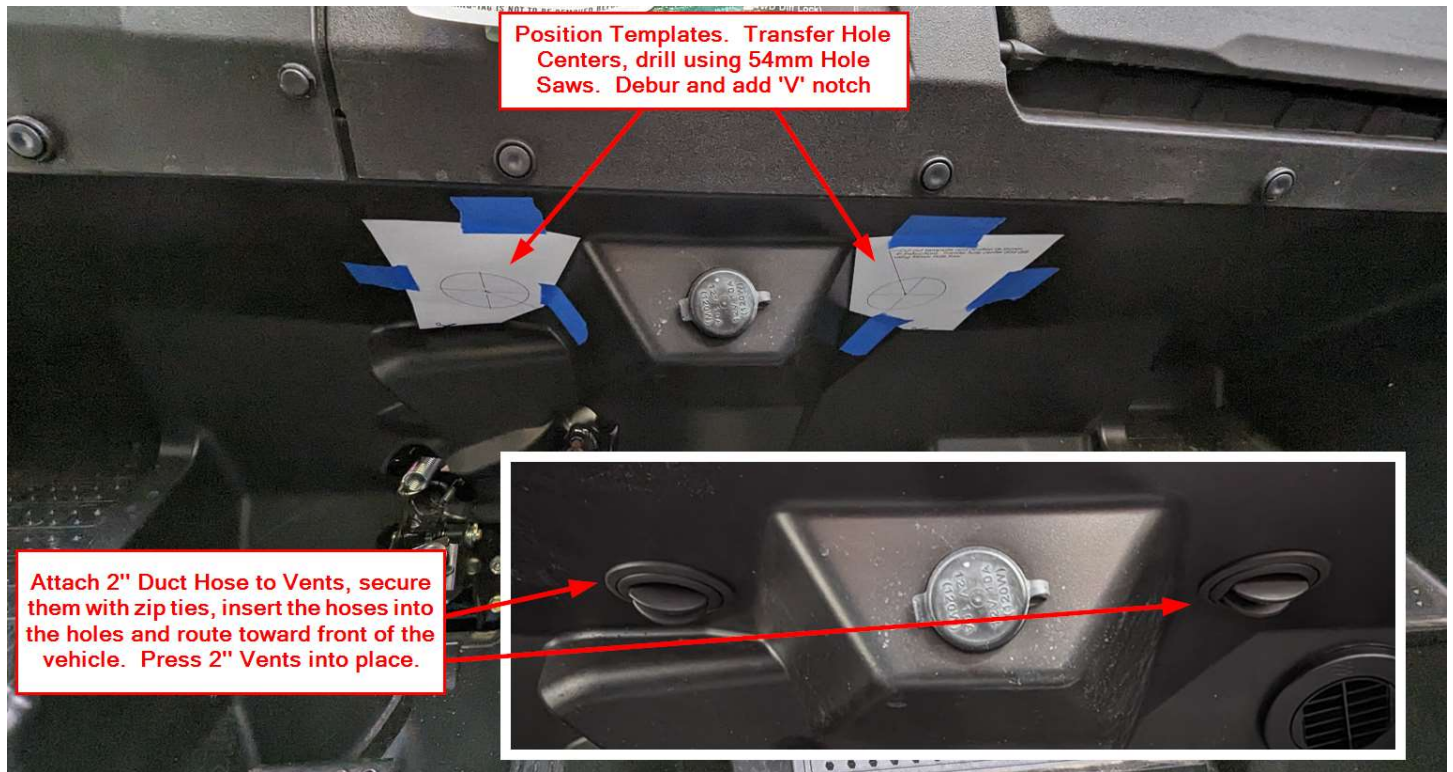
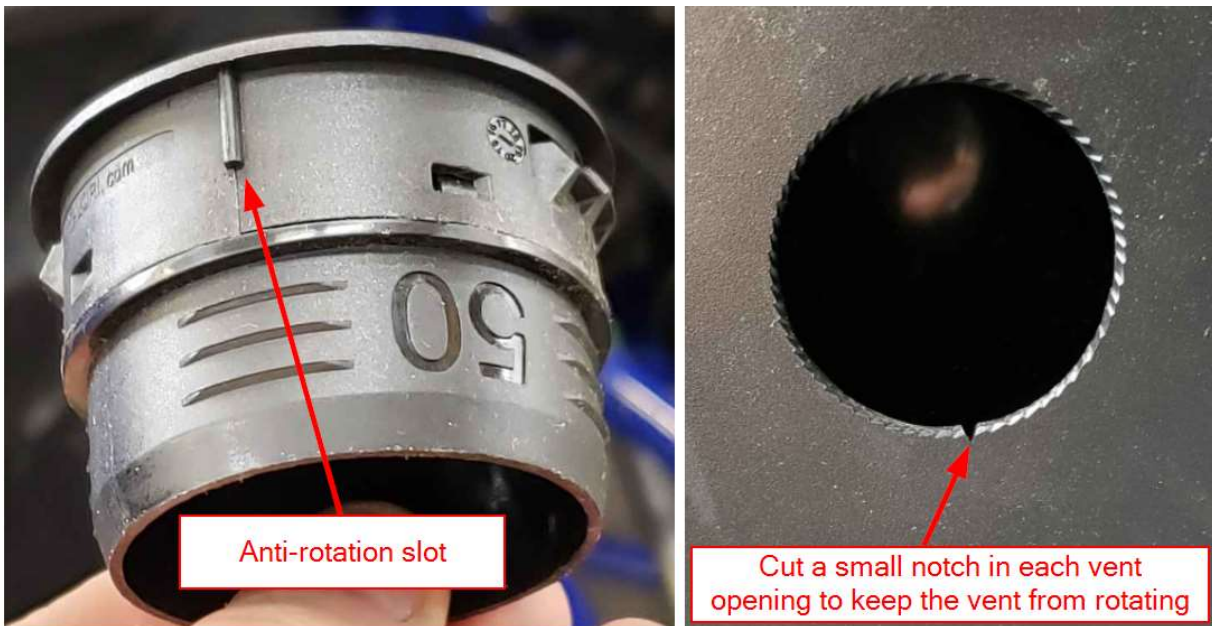

Figure 3
Figure 4
- a. From the back of the instruction manual, cut out the Passenger and Driver side lower vent templates. Position them as shown in Figure 3. Transfer the hole centers on the template to the Firewall, use the included 54mm Hole Saw to drill the holes. Deburr as necessary. **Installation Tip: After cutting the 54mm vent holes, use a razor blade to cut a small “V” shaped notch anywhere along the hole. Each 2” Vent has an anti-rotation notch molded into it, fit the notch into the ‘V’ groove for easier install. See Figure 4.**